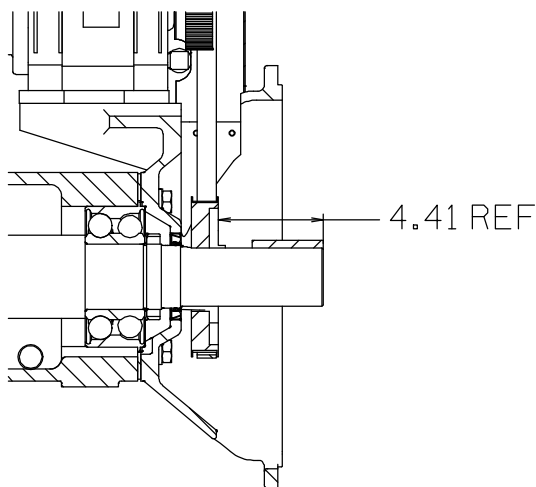

Figure 7. Drive Sprocket Positioning
Install the drive key (not shown) in the shaft keyway, making sure to leave room in the keyway for the drive key (28, Figure 3). Install the bushing (7) and sprocket (6) on the shaft to the dimension shown in Figure 7.